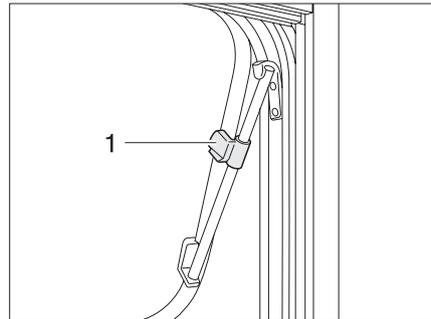

Fig. 20 Hinged window with rotary hinges, open
- ▶ Open the hinged window until the required position has been reached and secure in position using the knurled knob (Fig. 20,1). The hinged window remains locked in the required position.
- ▶ Turn the knurled knob (Fig. 20,1) until the latch is released.